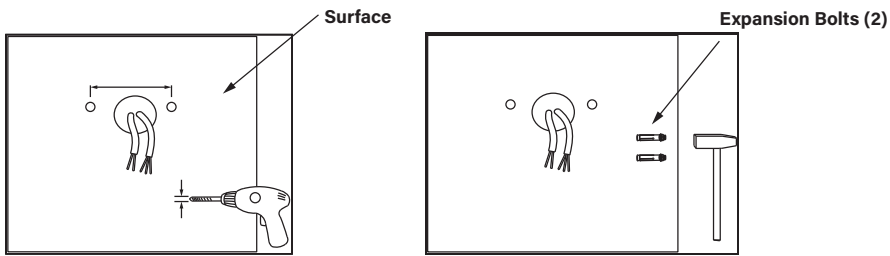

Figure 9
1. Drill holes into desired surface. (Figure 9)
2. Put expansion bolts (provided) into the drilled holes and loosen the nuts. (Figure 9)
3. Feed supply wires through opening in the wall. (Figure 9)